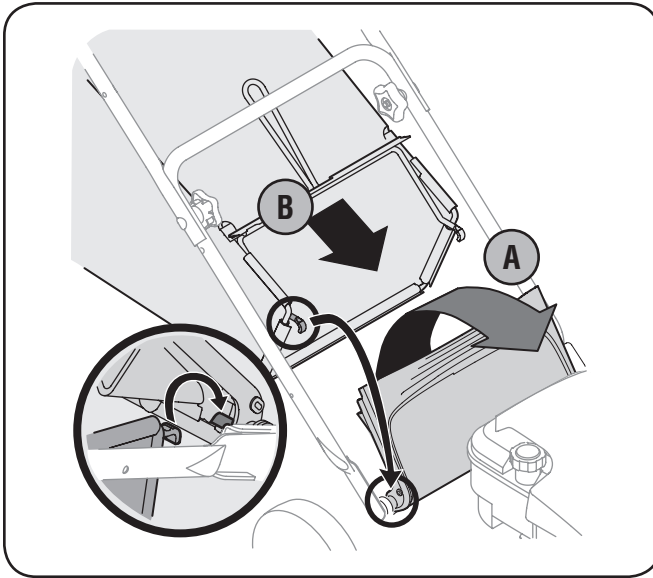

Figure 3-6
- a. Lift rear discharge door. See Fig. 3-6.